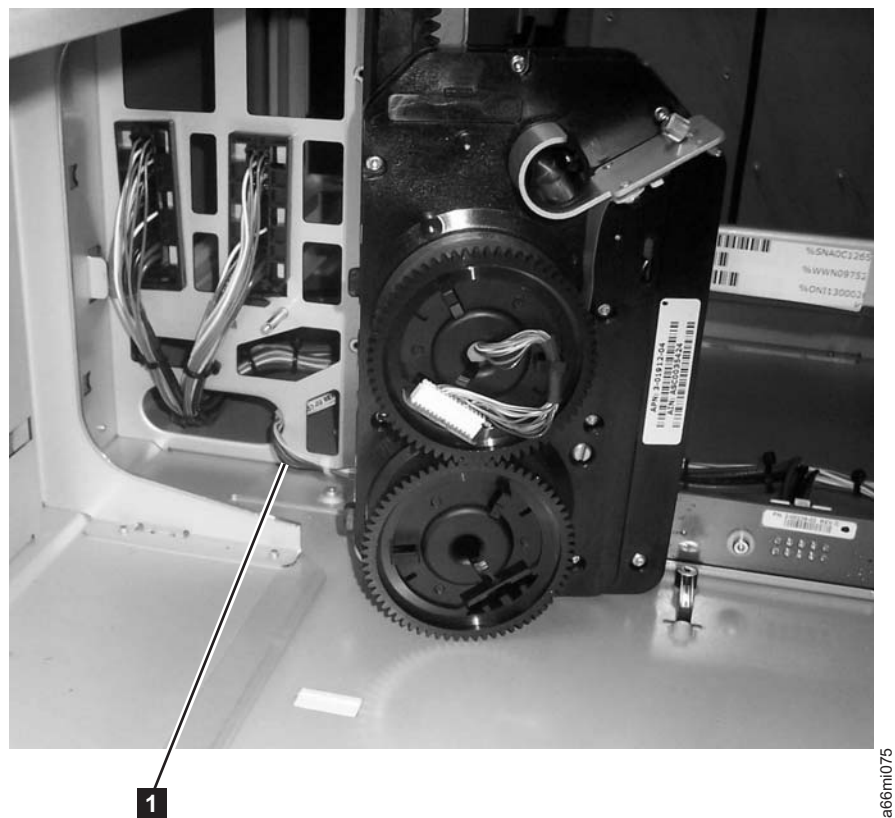

Figure 8-103. Cable Spool cable routing through enclosure wall
8. Remove the Cable Spool Assembly from the control module. Carefully route the cable (1 in Figure 8-103 on page 8-95) disconnected from the distribution board through the holes in the enclosure to avoid damage to the cable.
1. Insert the Cable Spool Assembly into the control module. Carefully route the cable disconnected from the distribution board through the holes in the enclosure (**1** in Figure 8-103) and to the left of the screw stand-off to avoid damage to the cable.